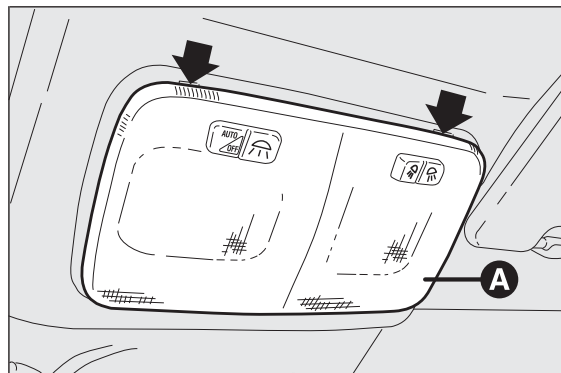
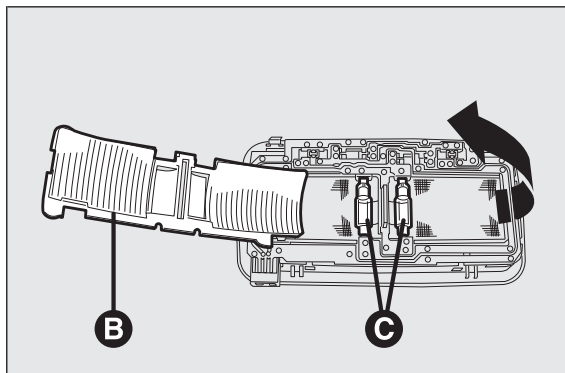

fig. 208
fig. 209
- ☐ operate in the points indicated by the arrows and remove light A fig. 208;
- ☐ open protective flap B fig. 209;
- ☐ replace the bulbs C fig. 209, releasing them from the side contacts and making sure that the new bulbs are correctly secured between the contacts;
- ☐ close flap B fig. 209 and fix roof light A fig. 208 in its housing, making sure that it locks into place.